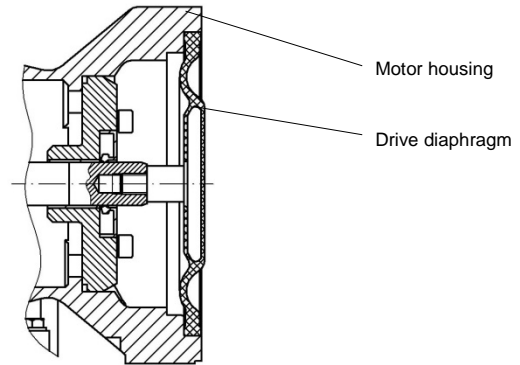

Fig. 34
- Move the drive diaphragms to the middle position by turning the fan blade of the drive motor (see Fig. 34).